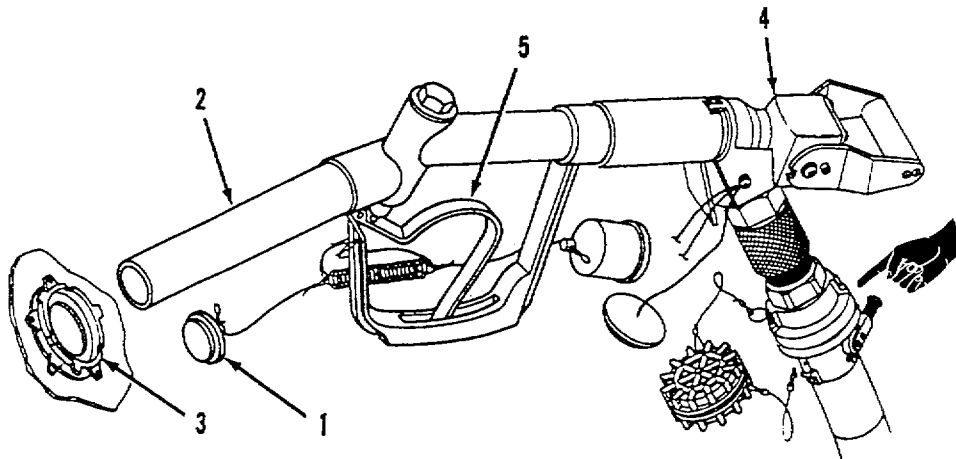

Figure 2-15. Open Port Nozzle Operation.
e. Open Port Nozzle Operation. Refer to figure 2-15. The open port nozzle must be connected to the CCR nozzle prior to operation. The CCR nozzle reduces system fuel pressure to the open port nozzle to prevent excessive fuel flow to the aircraft.
- (1) Remove dust cover (1) from end of discharge tube (2).
- (2) Place end of discharge tube (2) in fuel tank adapter (3).
- (3) Set CCR Nozzle (4) to OPEN. Refer to TM 10-4930-248-13&P.
- (4) Squeeze control handle (5) to dispense fuel.
- (5) When fuel tank is full, release control handle (5).
- (6) Remove end of discharge tube (2) from fuel tank adapter (3).
- (7) Set CCR nozzle (4) to CLOSE. Refer to TM 10-4930-248-13&P.
- (8) Install dust cover (1) on end of discharge tube (2).